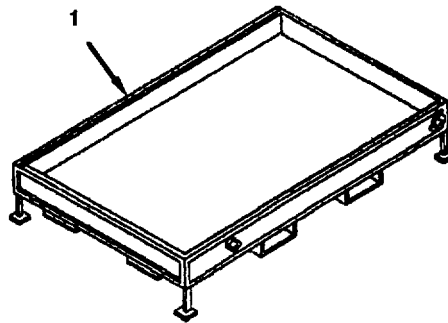

Figure 2-59. Flaking Box Assembly Preparation.
- a. Clean empty flaking box assembly (Figure 2-59, 1).